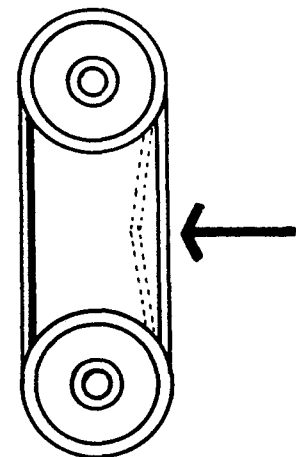

FIG. 4
4. Refer to Fig. 4.
The belt is properly tightened when the belt "gives" about $\frac{1}{2}$ " to $\frac{3}{4}$ ". (see Fig. 4)